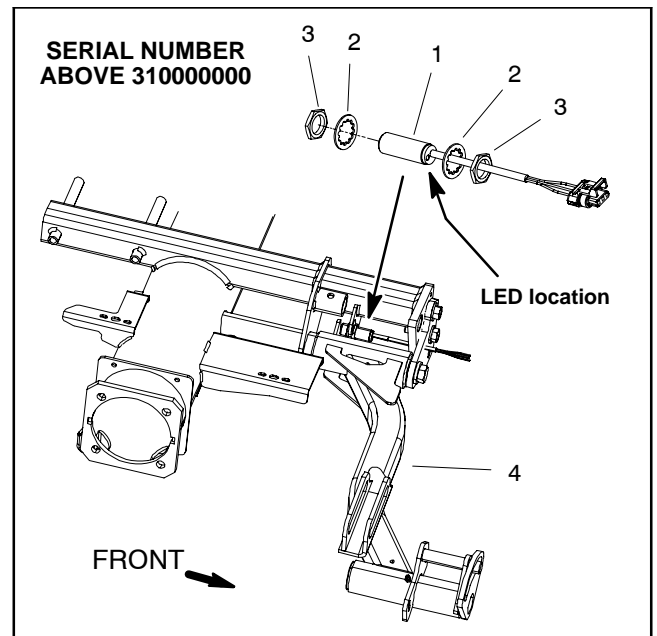

Figure 38
3. On machines with serial numbers above 310000000 (Fig. 38), test up limit switch as follows: